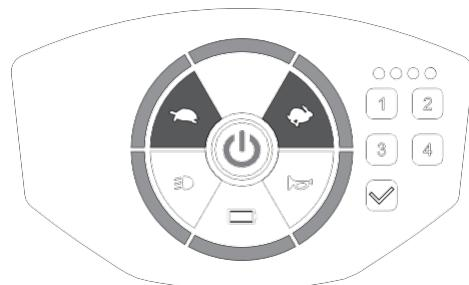

Figure 9
- Press the power switch to get the scooter on power standby (red light on), then press and hold both acceleration [ ↑ ] / deceleration [ ↓ ] buttons for 2 seconds. The panel light will be all on when scooter is ready for backlight setting. (Figure 9)